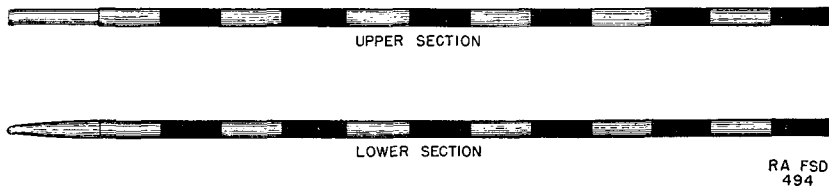

FIGURE 42.—Aiming post, M1.
46. Post, aiming, M1.—This aiming post (fig. 42) consists of two tubular sections each approximately 4 feet long. The lower section has a metal point for embedding in the ground and the upper